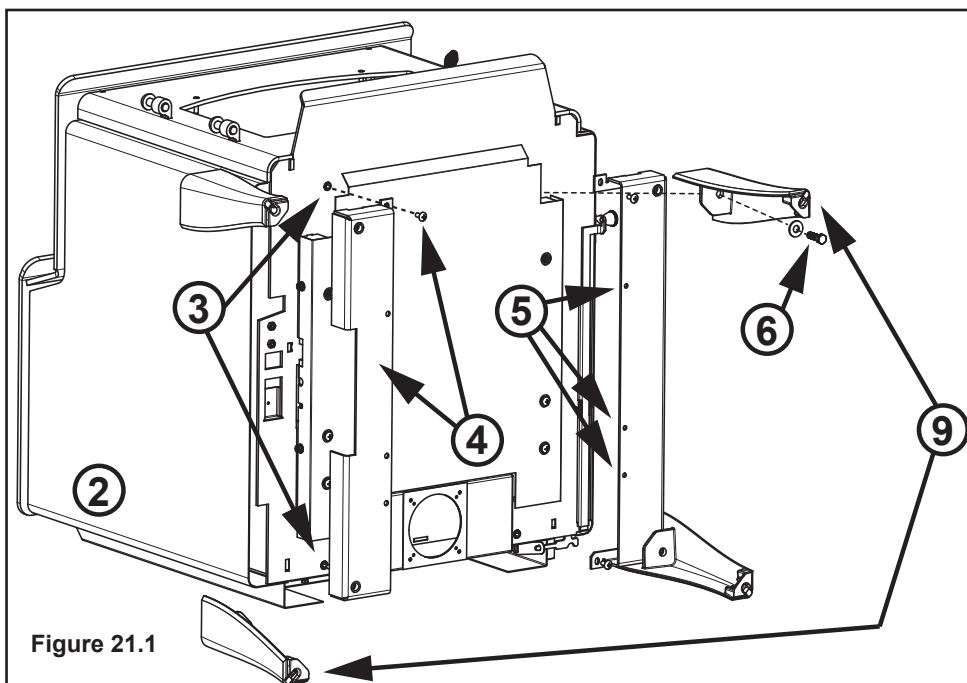

Figure 21.1
3. Remove four screws from bottom of appliance (**Figure 21.1**).
NOTE: There is a right and a left of the leg brackets (**Figure 21.1**).
5. Install six screws to the bottom of the leg brackets (**Figure 21.1**).
Note: Legs with leveling bolts need to be on opposite sides of the appliance - one in the front and one in the back (**Figure 21.1**)